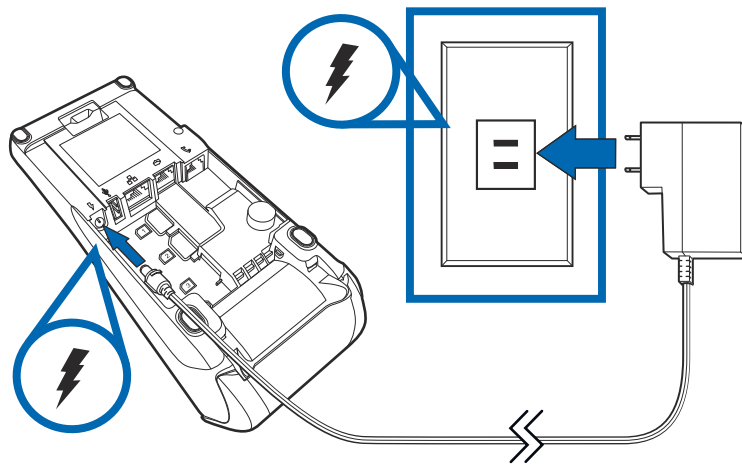
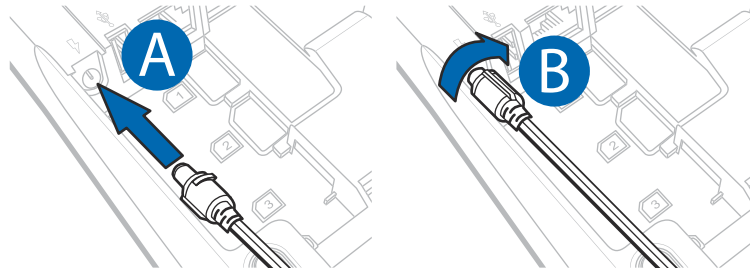

Figure 15 Power Connection
Figure 16 Locking the Power Connection
- 2 Insert the round barrel connector (see Figure 15) into the power port.
Optionally, after inserting the round barrel connector into the power port (see Figure 15), you can lock the barrel connector to keep it engaged to the terminal even when an installation tensions the power cord (see Figure 16).